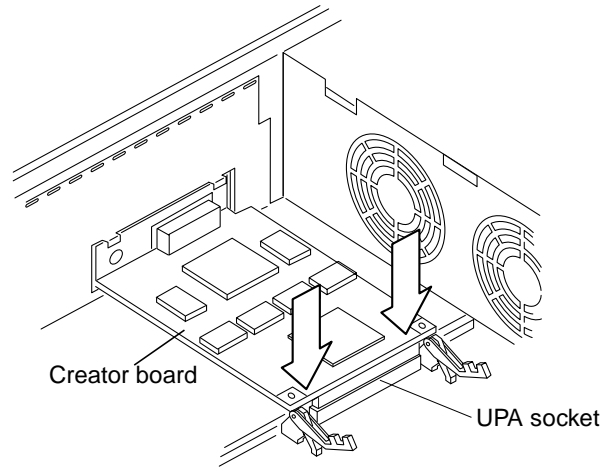

Figure 3-13 Pushing Down the Creator Board into the Socket
4. Carefully press both corners of the Creator board evenly to seat the Creator board connector into the UPA socket (Figure 3-13).